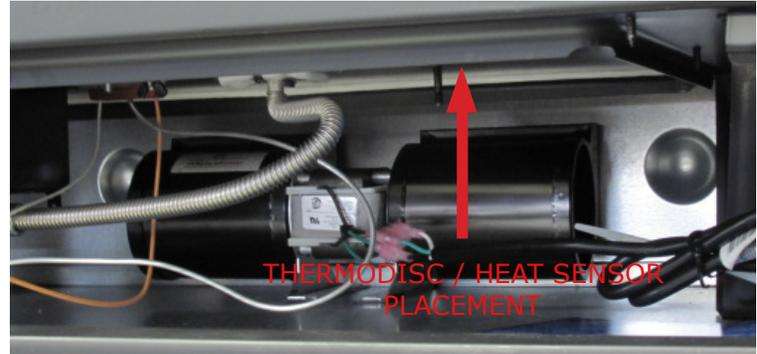

Figure: 3
Step 2: Place the thermodisc to the underside of the firebox. Typically, a couple inches back from the front and 4-6 inches right of center is a good place. If this location does not get hot enough, try toward the rear and 4-6 right of center (Figure: 3,4, 5)